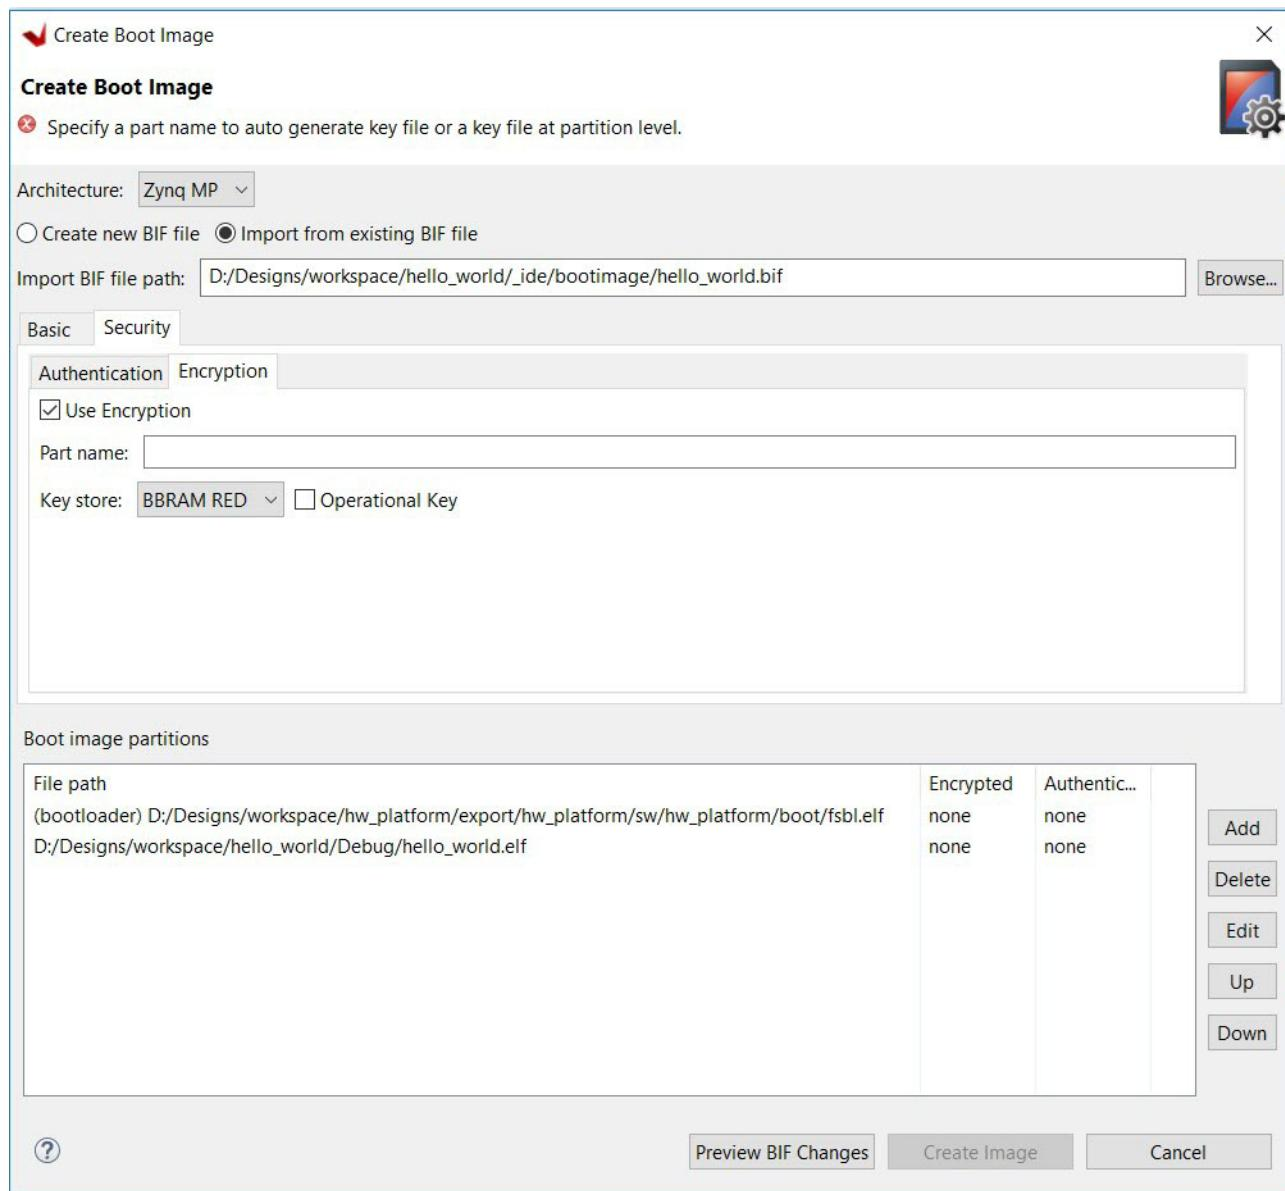

Figure 17: Create Boot Image Encryption
6. Click **Security** tab, then click **Encryption** tab, and check **Use Encryption**. Under Key store select BBRAM RED (Figure 17).